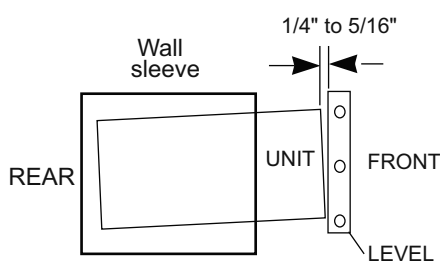

Fig.1
- When installation is complete, replacement unit MUST have a rearward slope as shown in Fig. 1.